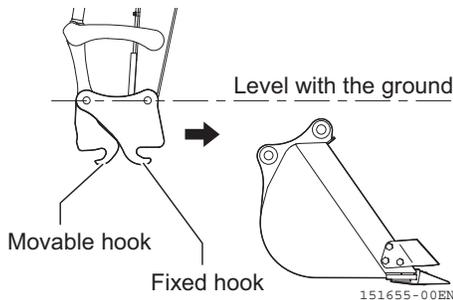

Fig. 3-96
- Put the fixed hook onto the pin of the attachment on the arm side and set the quick hitch level with the ground as illustrated in Fig. 3-96.